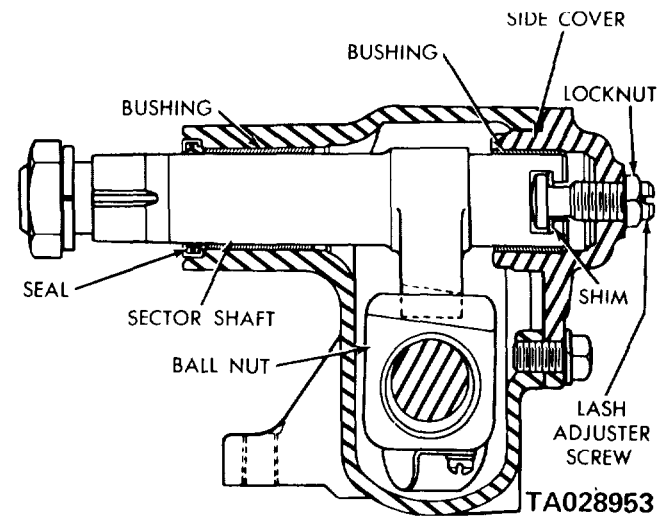

Figure 7-14. Steering Gear (Including Lash Adjuster Screw).
- (7) If the torque reading is not between 4 and 6 in-lbs, adjust bearing preload as follows:
- (8) When worm bearing preload is 4-6 in-lbs, adjust the ball nut rack and sector mesh (b, below).
b. Ball Nut Rack and Sector Mesh. The lash adjuster screw (figure 7-14), located in the housing cover, raises or lowers the sector shaft to provide proper mesh between the tapered sector gear teeth and the tapered ball nut teeth. Adjust this mesh only after establishing the proper worm bearing preload (a, above).